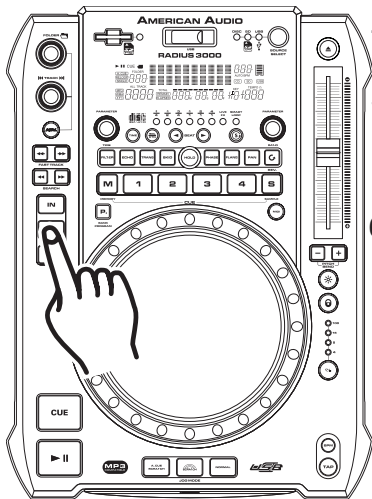

Figure 23
- 4) The red **MEMORY BUTTON (30)** LED will turn off, when your sample is locked into memory.
- 5) At this point your sample has been stored into memory. The original loop you used to create the sample will remain playing until the **OUT BUTTON (15)** is pressed (Figure 23).
- 6) Your sample can now be recalled at any time even when the unit is in **PAUSE MODE**. To recall the sample be sure the sample function is on, by pressing the **Sample Button (27)**. The blue sample button LED will turn on. To play your sample in a continuous loop leave the sample function on. To play your sample just once, turn the sample function off immediately after initiating your sample. With the sample function on the sample will continue to play until the sample function is turned off.